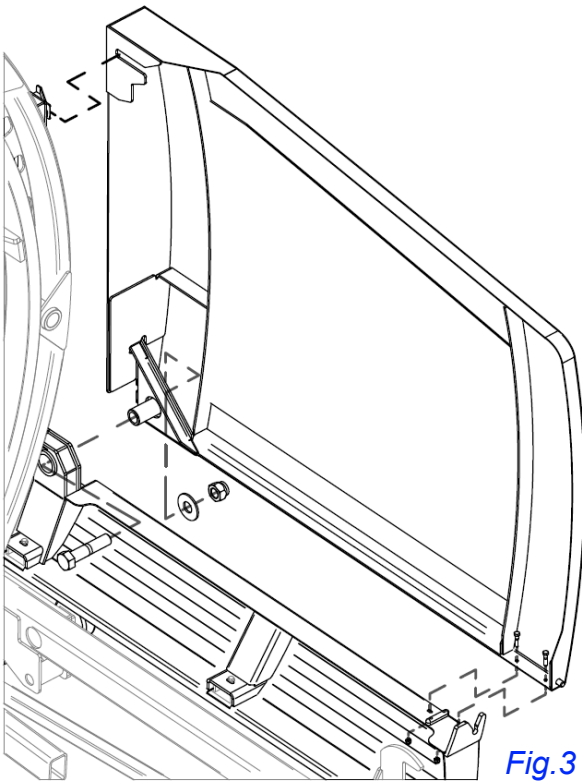

Fig.3
9. Install right maintenance safety guard by bolting at pivot point. Do not over tighten. See Fig.3.